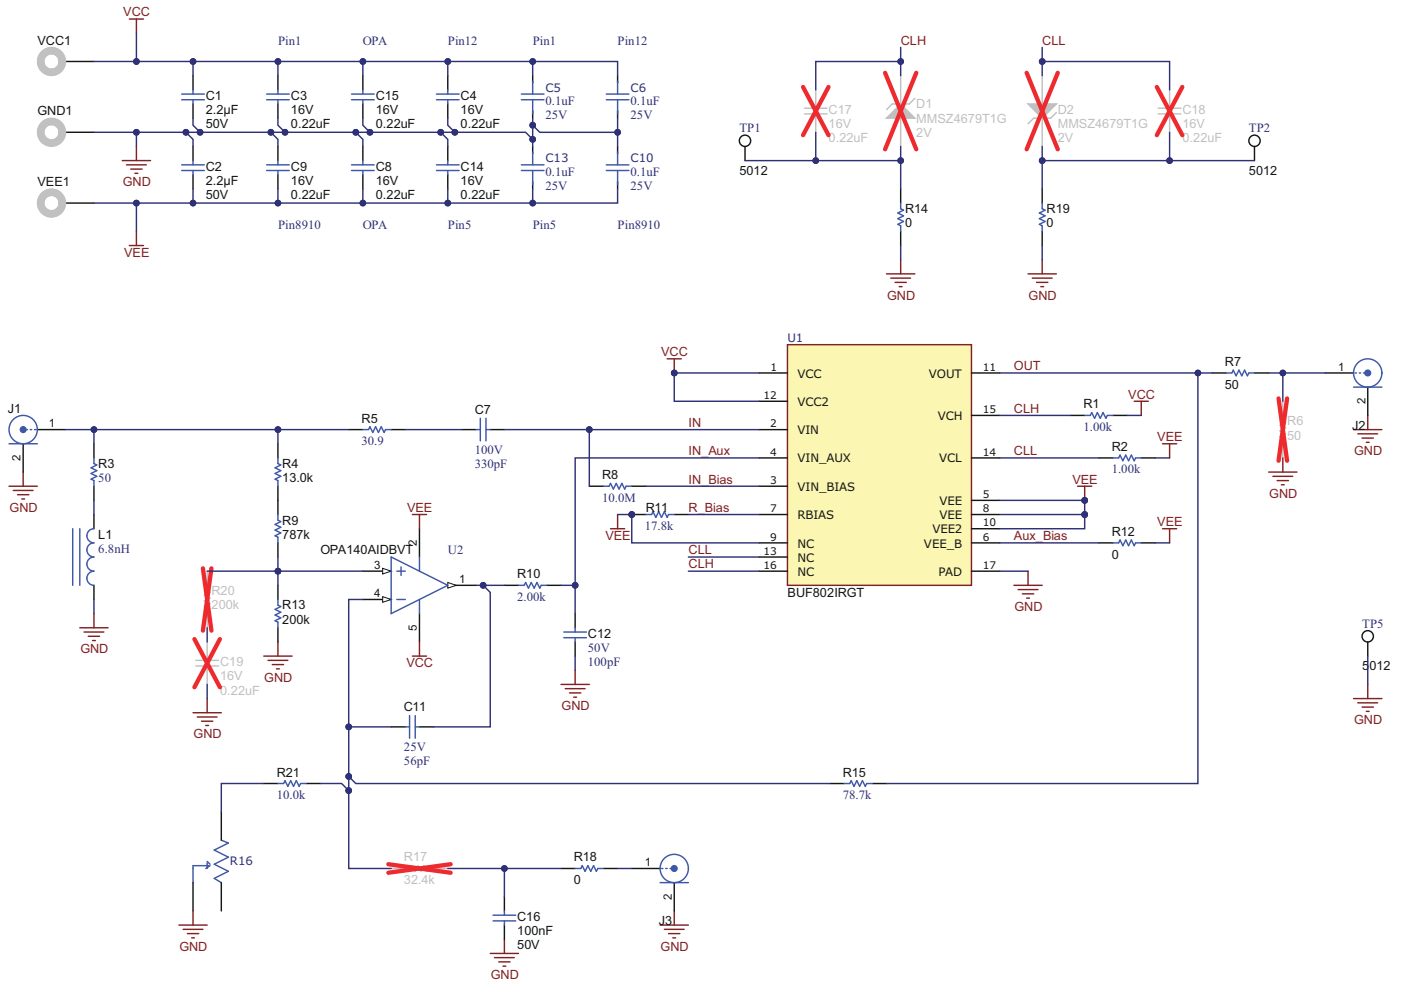

图 11-1. Layout Example: Schematic for Layout Reference
- **Peaking in the S21 transfer function:** keeping the trace length minimum is of prime importance to ensure no peaking occurs in the S21 transfer function of the BUF802. The trace inductance can form a resonant circuit with the input capacitance of the BUF802, causing peaking in the S21 response. Add a small resistor (R_5 in 图 11-1) in series with the DC blocking capacitor to dampen the LC resonance created by the trace inductance and the input capacitance of the BUF802. Choose series capacitors (C_7 in 图 11-1) with low equivalent series inductance (ESL) to minimize total inductance.
- **Power-supply bypass capacitors:** mount the power-supply bypass capacitors as close to the supply pins as possible and on the same side of the PCB as the BUF802. As shown in 图 11-1, choose low-inductance LICC capacitors (C_5 , C_6 , C_{13} , and C_{10}) to minimize high frequency impedance between the BUF802 and the bypass capacitors. Use multiple vias between the bypass capacitor and GND to reduce series inductance. As shown in 图 11-1, also use multiple vias to GND on the 50Ω input termination resistor (R_3). Connect the bypass and termination vias to a solid GND plane.